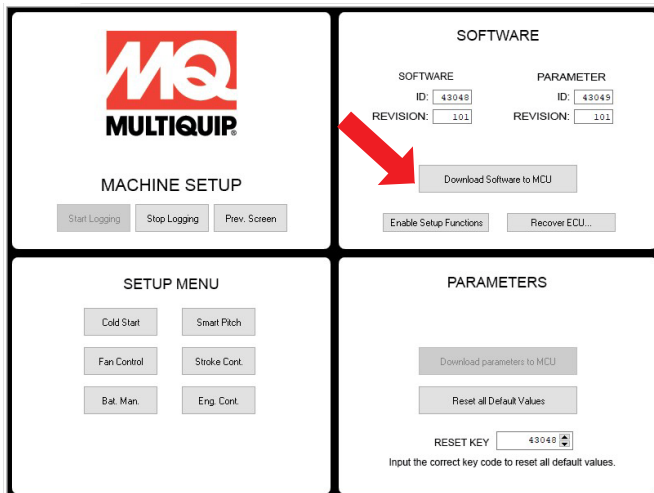

Figure 25. Download Software to MCU Screen
5. Click "Download Software to MCU" button (Figure 25).